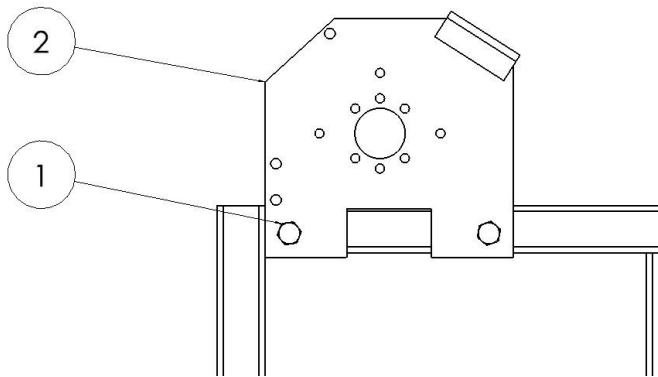

Figure 1.5
Mount the two supplied tarp spool mounting brackets (2) as far forward as possible on the exterior of the trailer. Drill the two mounting holes 1" down from the top edge of the box. Use the supplied 1/2" x 1" bolts (1) and 1/2" nuts to attach the tarp spool mounting brackets. (Figure 1.5)